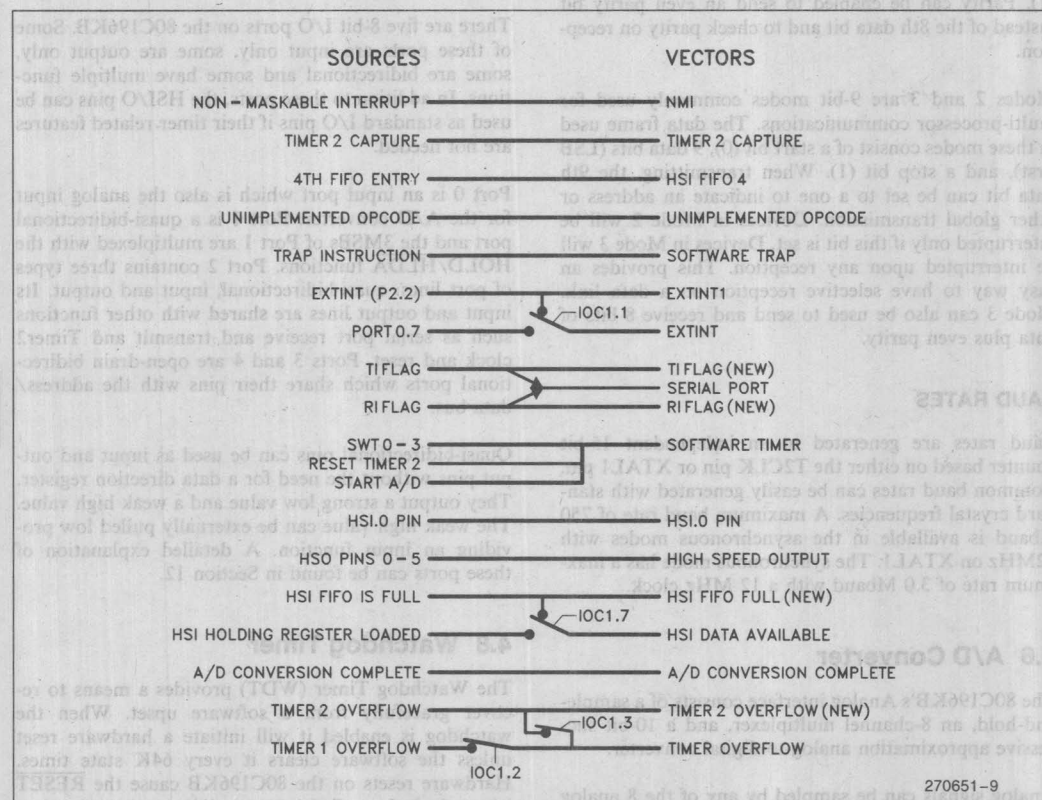

Figure 5-1. 80C196KB Interrupt Sources
Twenty-eight (28) sources of interrupts are available on the 80C196KB. These sources are gathered into 15 vectors plus special vectors for NMI, the TRAP instruction, and Unimplemented Opcodes. Figure 5-1 shows the routing of the interrupt sources into their vectors as well as the control bits which enable some of the sources.